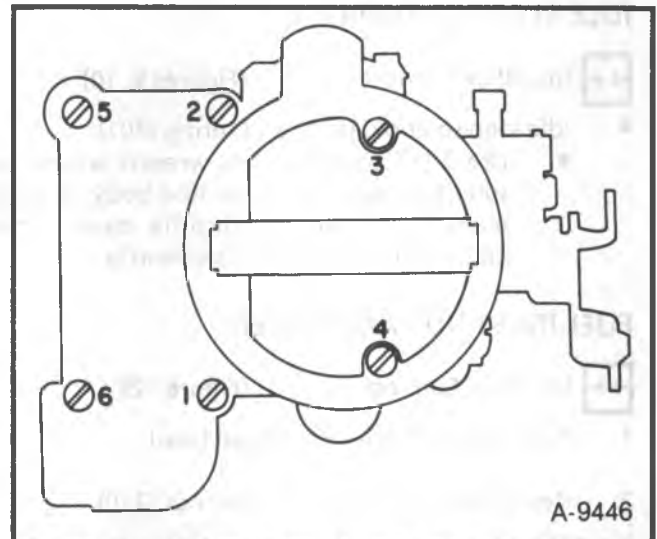

Figure 38 - Air Horn Screw Location and Tightening Sequence
Install or Connect (Figure 38)
1. Connect bowl side vacuum break assembly (65) to vacuum break link (69A).
3. Install air horn to float bowl (vacuum break attaching) screws (111).
- Tighten all air horn to float bowl screws (in sequence shown in Figure 38.)